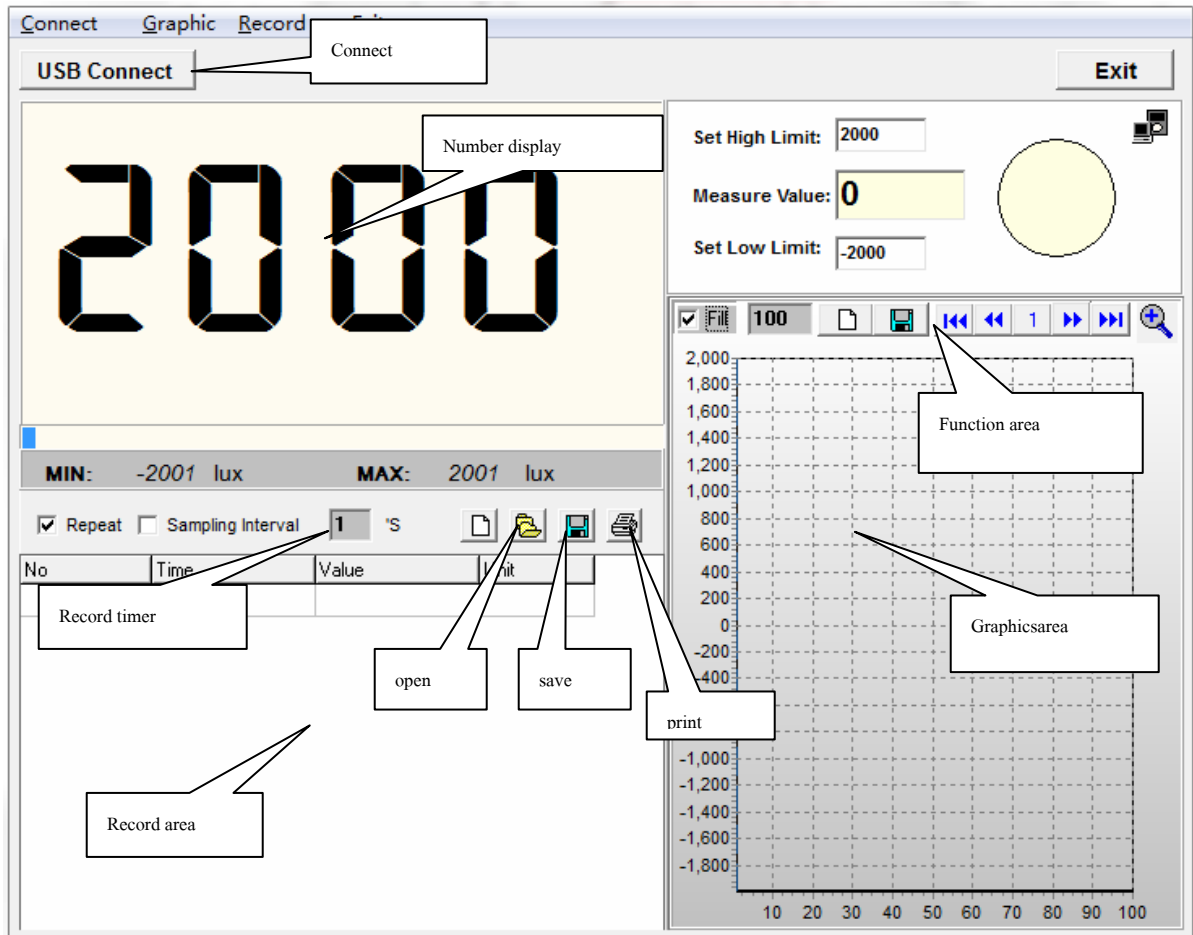

Figure 16
5.9 In "the equipments management machine"-- "The in general use string go to correspond by letter the controller"-- The USBXpress device" such as figure 16. Mean the USB drives to install the success.